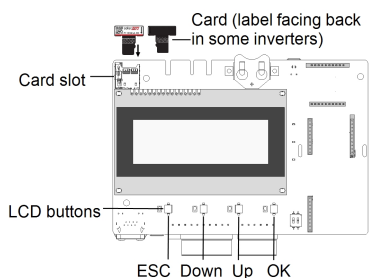

Figure 10: Communication board and activation card
1. Perform pairing: Press and hold down the inverter LCD OK button (rightmost on the communication board; see *Figure 10*) for about **10 seconds**. The following message is displayed: